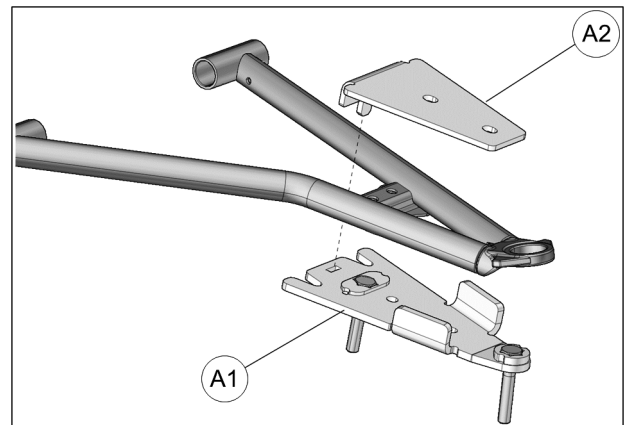

Fig. 18
6. Position bottom part of anchor bracket assembly (A1) under lower suspension arm. Position bracket cover (A2) over suspension arm. Align holes and insert the cover's tenon in the mortise cut in the bottom part. Refer to Fig. 18